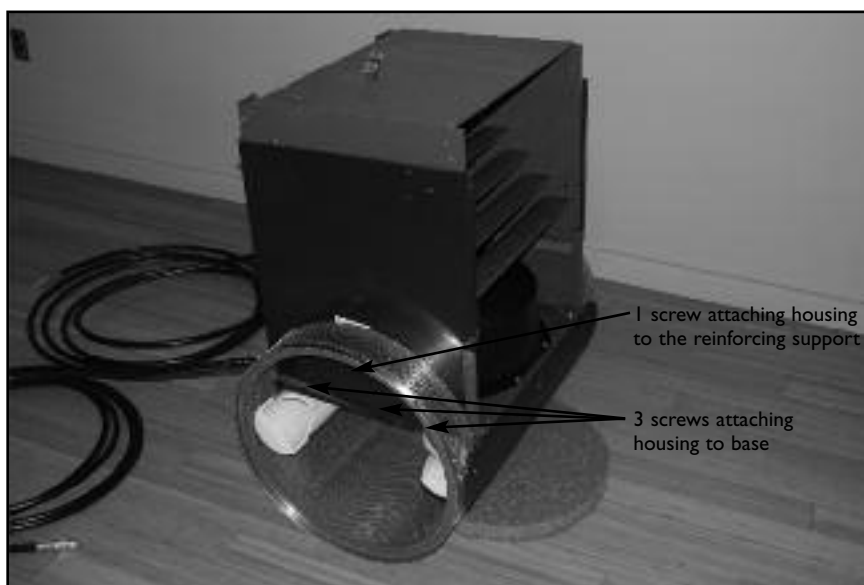

Fig. 9.4
- 9.5** Carefully remove the protective film encasing the upper housing. Place the upper housing into the opening of the cylindrical base (Fig 9.4). The hydraulic hoses connected to the base should be aligned with the back of the upper housing. Make sure that the stainless steel bonding wire attached to the motor mount is positioned inside of the upper housing.
- 9.6** Use the provided stainless steel machine screws to attach the upper housing to the base. There will be 4 screws per side (total of 8). On each side of the housing, there will be 3 screws securing the upper housing to PVC motor mount support and 1 screw attaching the stainless steel reinforcing support to the housing just above the 3 previous screws (Fig 9.4).